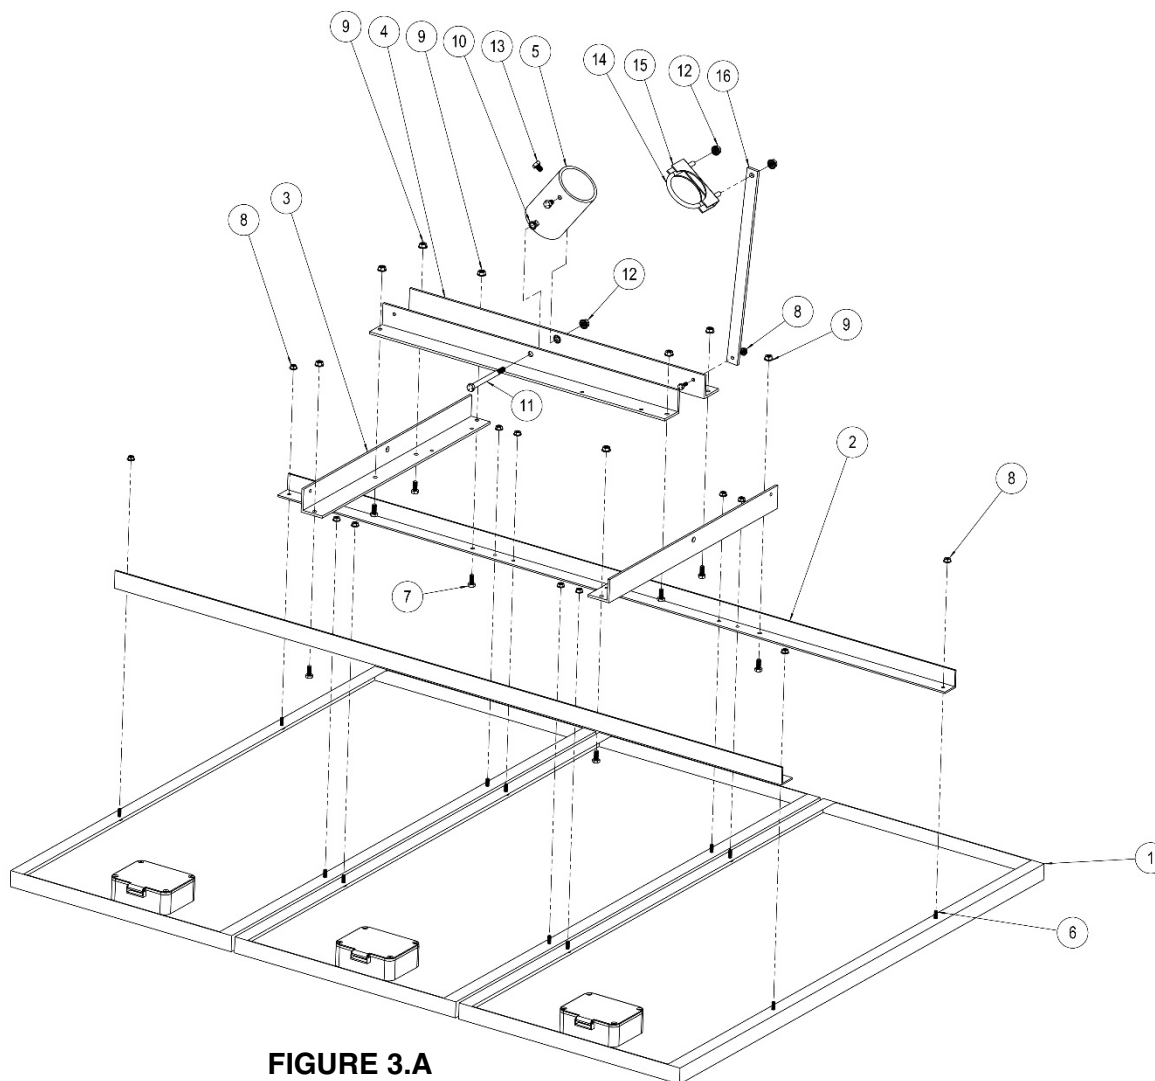

FIGURE 3.A
4. Once, your pole is set and the **concrete is dried**; place your solar array with mounts on top of the pole. If your solar array did not come pre-assembled with mounts please view **FIGURE 3.A** for mount assembly first.
Build of Materials for Pole Mounts-FIGURE 3.A